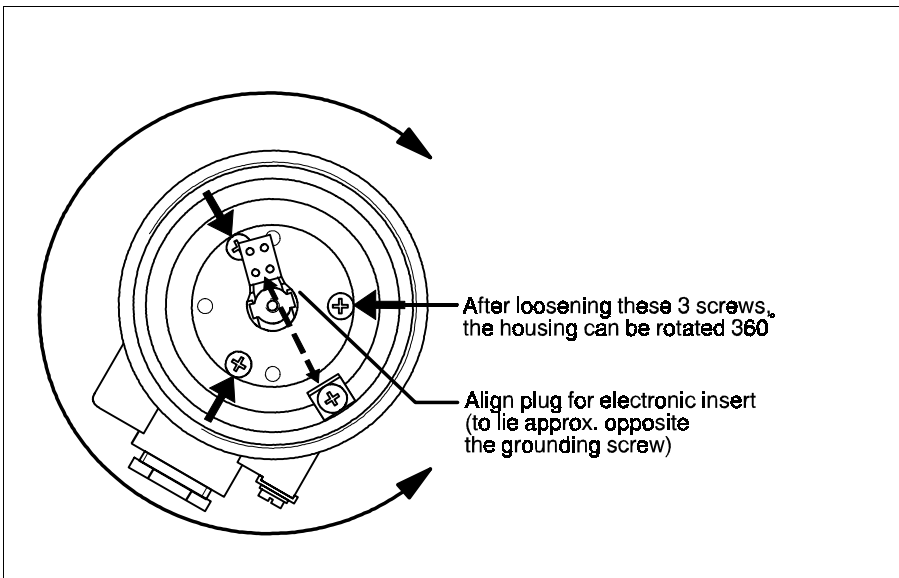

Fig. 13
- Slightly loosen the 3 screws in the housing, see Fig. 13